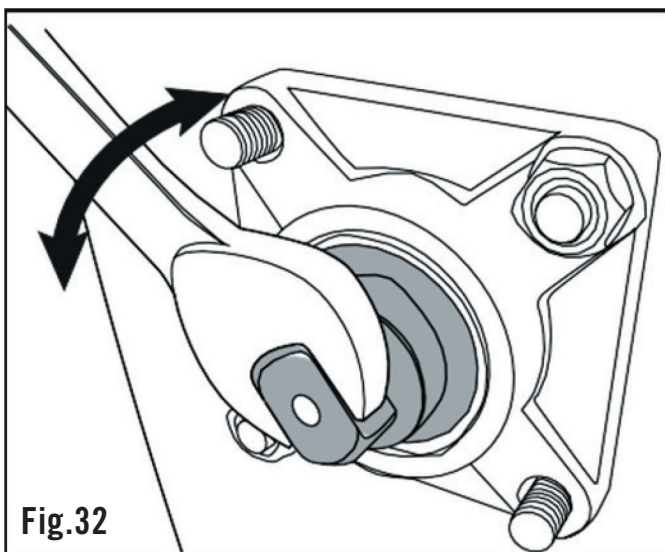

Fig.32
4. Rotate the blade shaft as required using the 17mm spanner (fig. 32).